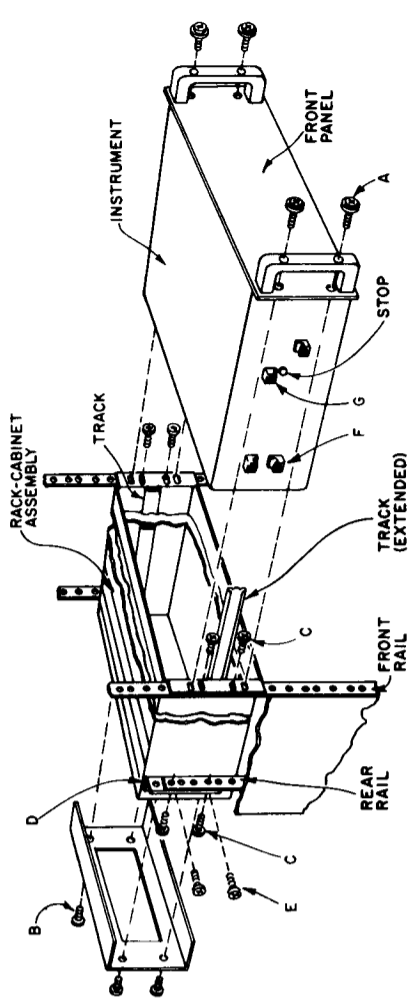

Figure 2-5. Rack-cabinet installation.
- Remove the rear cover from the bench cabinet with screws (B, Figure 2-5), for later installation on the rack cabinet.
- b. Remove the instrument from the rack cabinet, after removing the panel screws (A, Figure 2-5). (When free motion along the tracks is stopped, tilt the front of the instrument up slightly to clear the stops.)